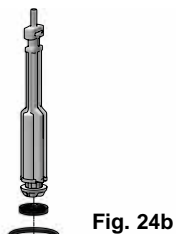

Fig. 24b
- Increase the distortion to grip the part of the seal which overlaps and then pull it out of its groove (**Fig. 24b**).